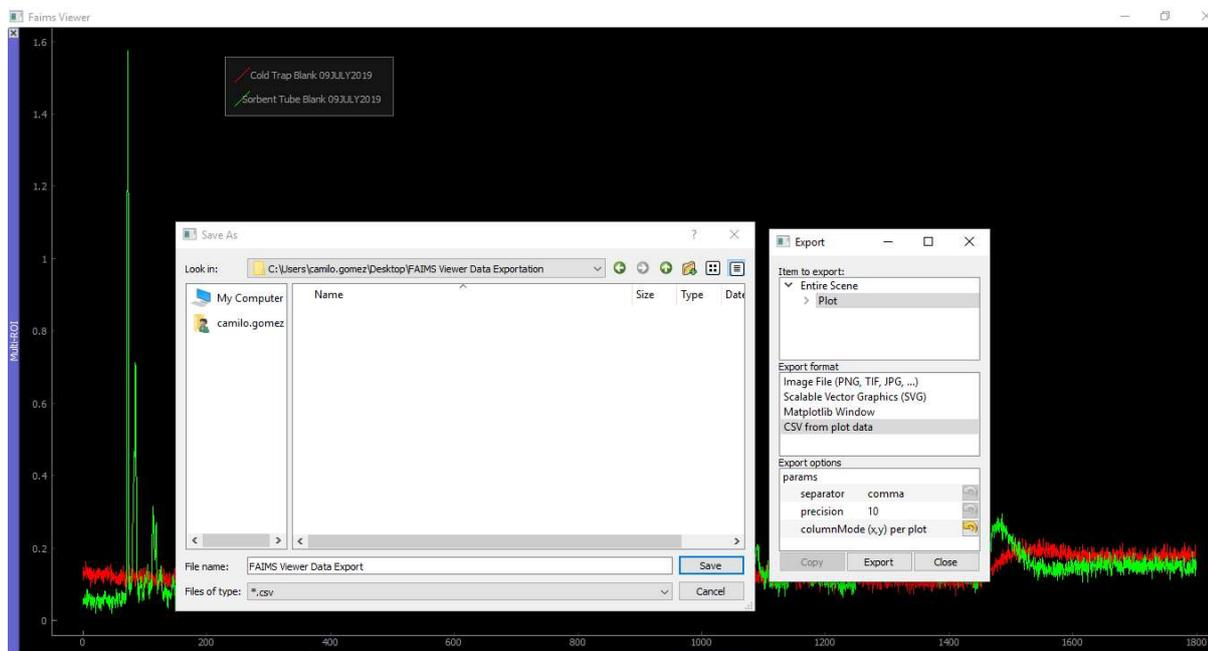

Figure 12. Data export function. Select “CSV from plot data” to export into Excel format.
3.4.1 To export to a excel (.csv) file, right click on the Multi-ROI plot, select “Export”. Select “CSV from plot data” and click on export (Figure 12) Select the file location and the excel file name. The Multi-ROI plot can be exported either by using the “Export” option or by coping using the computer screenshot command.